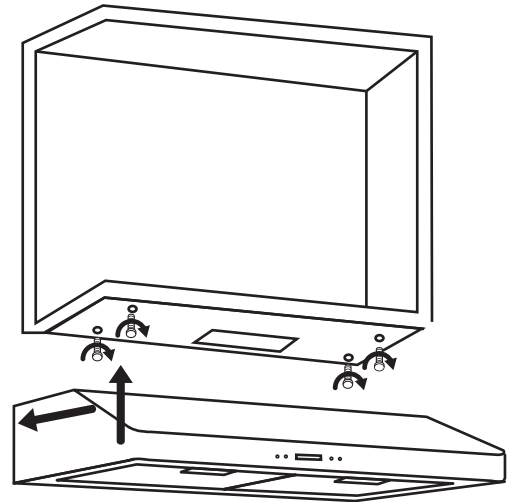

Figure 6
- Using measurements provided on Page 7, measure and drill 4 holes into bottom of cabinet (see Figure 6).
- Align range hood to the holes in the bottom of the cabinet and screw in (see Figure 6).